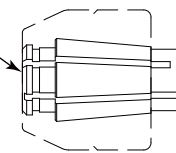

Fig. 9
- After pushing the collet chuck in, check that the collet chuck is secure 360 degrees around the chuck nut (Fig. 9).